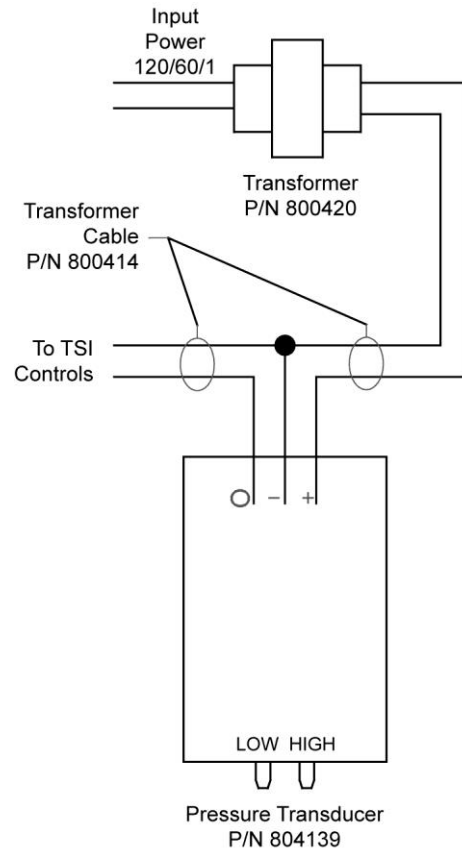

Figure 3: Transducer Wiring
- 5) Refer to the wiring diagram for proper transducer wiring (Figure 3). The cable is terminated at the pressure transducer and at the TSI® controller or monitor.
Wire the transducer to the **PRESSURE INPUT** terminals on the TSI® controller, per Figure 3. Refer to the Installation Instructions for the TSI® controller to determine the correct terminals.